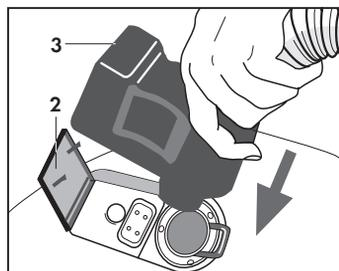

Fig. 8
- Open the flap (2) of the accessories socket (D) and plug the quick connection (3) of the hose (or of the iron) into the socket located on the front portion of the appliance. Push it in as far as it will go. **(Fig.8)**.
- You can also fit the quick connection (3) as described above - for Figures 8 and 9 - into the rear blow socket (O) but first you have to remove the muffler (P). No steam can be delivered through this socket.